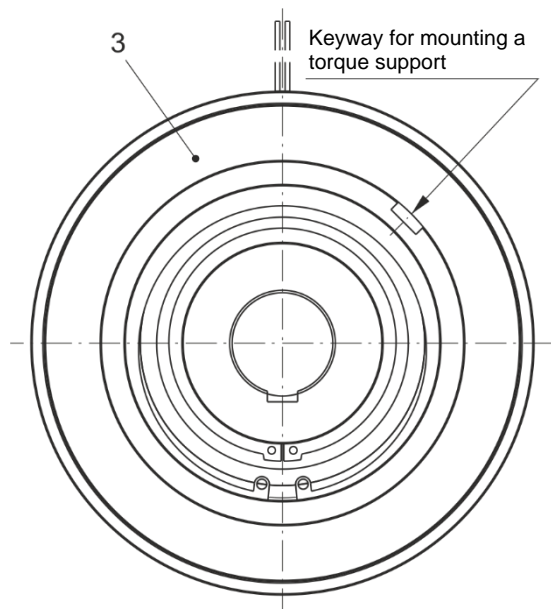
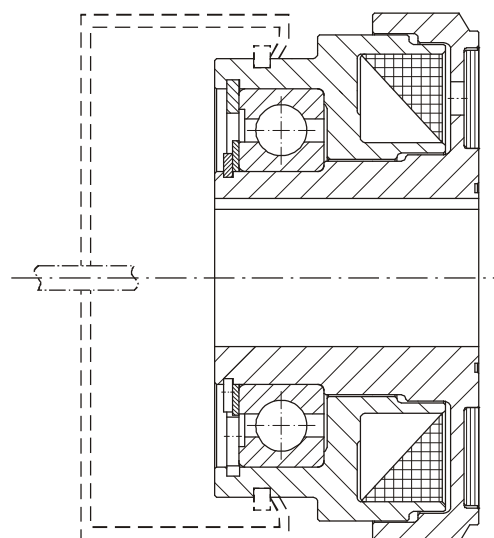
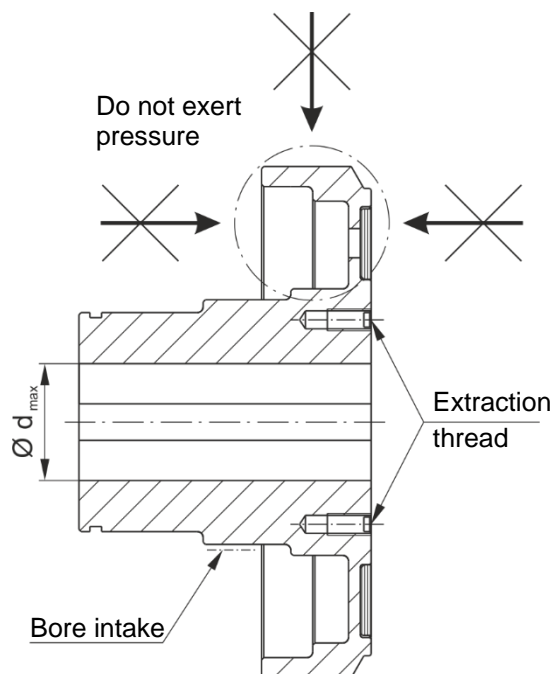

Fig. 3
Fig. 4
Fig. 5
- ☐ Secure the coil carrier (3) against distortion (Fig. 3).
- ☐ Keep the friction surfaces of rotor (1 or 2) and armature disk (9) free of oil and grease.
- ☐ Remove the clutch from the shaft over the snap ring groove on the coil carrier (3) using a locking ring (Fig. 4), or over the threaded holes on the rotor facing side (only for rotor Type 540. 100 / Fig. 5).
The locking ring (Fig. 4) is not included in the standard scope of delivery.
Boring the Rotor Hub (Fig. 5)
The rotor (1 or 2) must not be bent during boring. Do not place pressure on the outer, thin-walled rotor (1 or 2) area, see Fig. 5. To bore, clamp the rotor (1 or 2) onto the hub, as shown in Fig. 5.